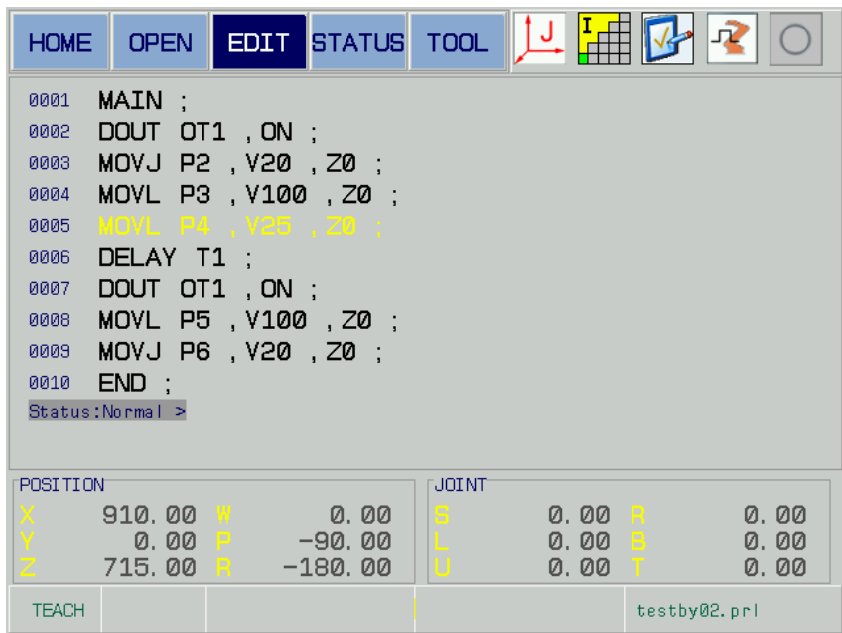

Fig. 5-41
4. Lastly, complete the cutting operation by [CUT]; refer to the Fig. 5-41.